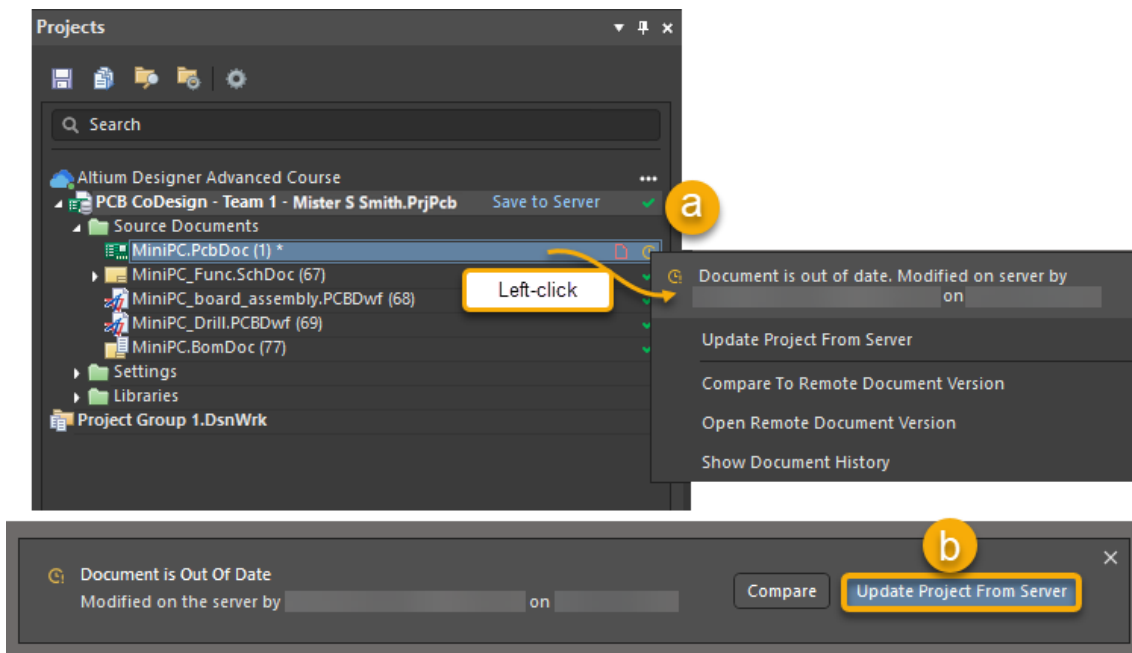

Figure 16. Out Of Date Message - Team Member 2
40. After Team Member 1 has uploaded their changes, Team Member 2 will see a message: *Document is Out of Date*, see Figure 16: